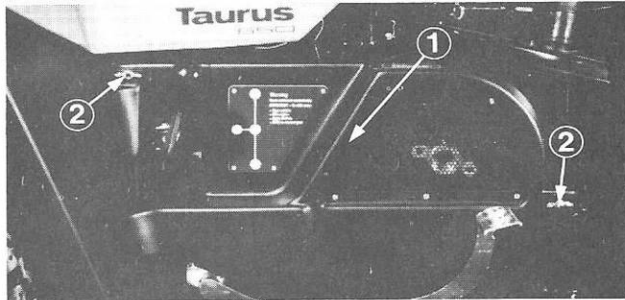

Fig. 37 (1) Engine Cover (2) Wing Nuts
2. Remove the right engine cover by loosening the two wing nuts (Figure 37).
1. Remove the right engine cover/fender to reveal the fluid reservoir (Figure 37).
1. Remove the right engine cover by loosening the two wing nuts (Figure 37).